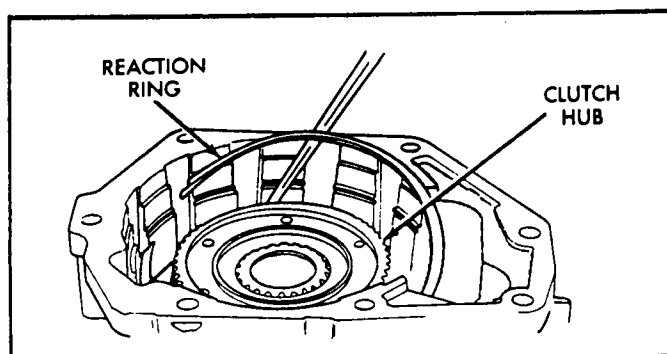

Figure 5
5. Remove the overdrive clutch FLAT snap ring, as shown in Figure 5. Note that the FLAT snap ring is located in the same groove as the WAVE snap ring.